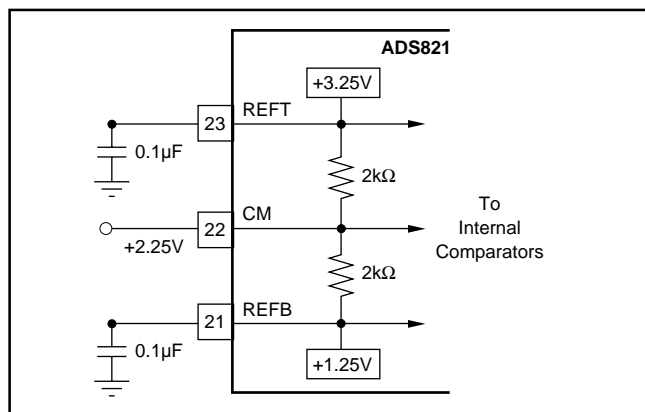

FIGURE 3. Internal Reference Structure.
The analog input of the ADS821 can be configured in various ways and driven with different circuits, depending on the nature of the signal and the level of performance desired. The ADS821 has an internal reference that sets the full-scale input range of the A/D converter. The differential input range has each input centered around the common-mode of +2.25V, with each of the two inputs having a full-scale range of +1.25V to +3.25V. Since each input is 2Vp-p and 180° out-of-phase with the other, a 4V differential input signal to the quantizer results. As shown in Figure 3, the positive full-scale reference (REFT) and the negative full-scale reference (REFB) are brought out for external bypassing. In addition, the common-mode voltage (CM) may be used as a reference to provide the appropriate offset for the driving circuitry. However, care must be taken not to appreciably load this reference node. For more information regarding external references, single-ended inputs, and ADS821 drive circuits, refer to the applications section.